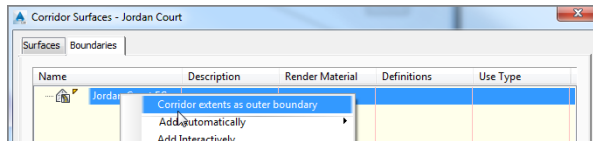

FIGURE 9.18 Selecting the corridor extents as the basis for creating a surface boundary
8. Right-click Jordan Court FG, and select Corridor Extents As Outer Boundary, as shown in Figure 9.18.